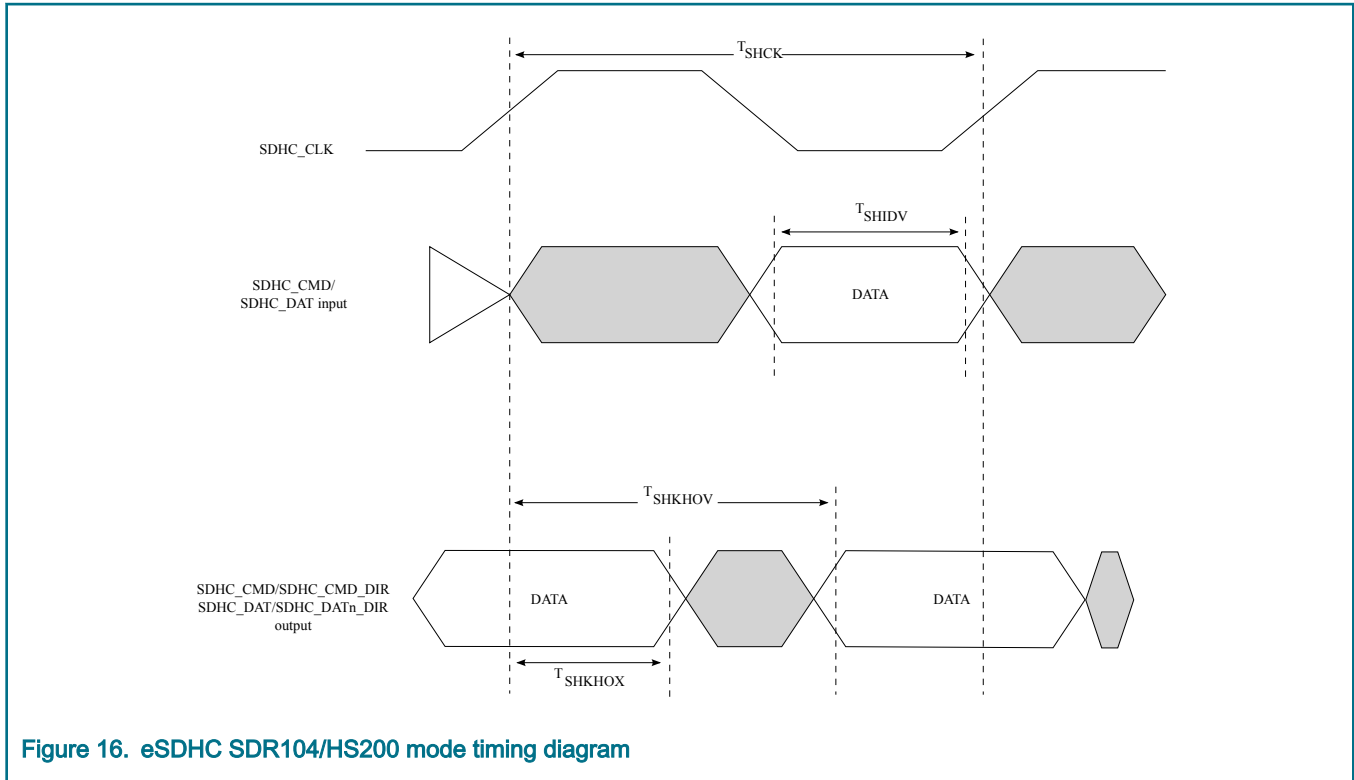
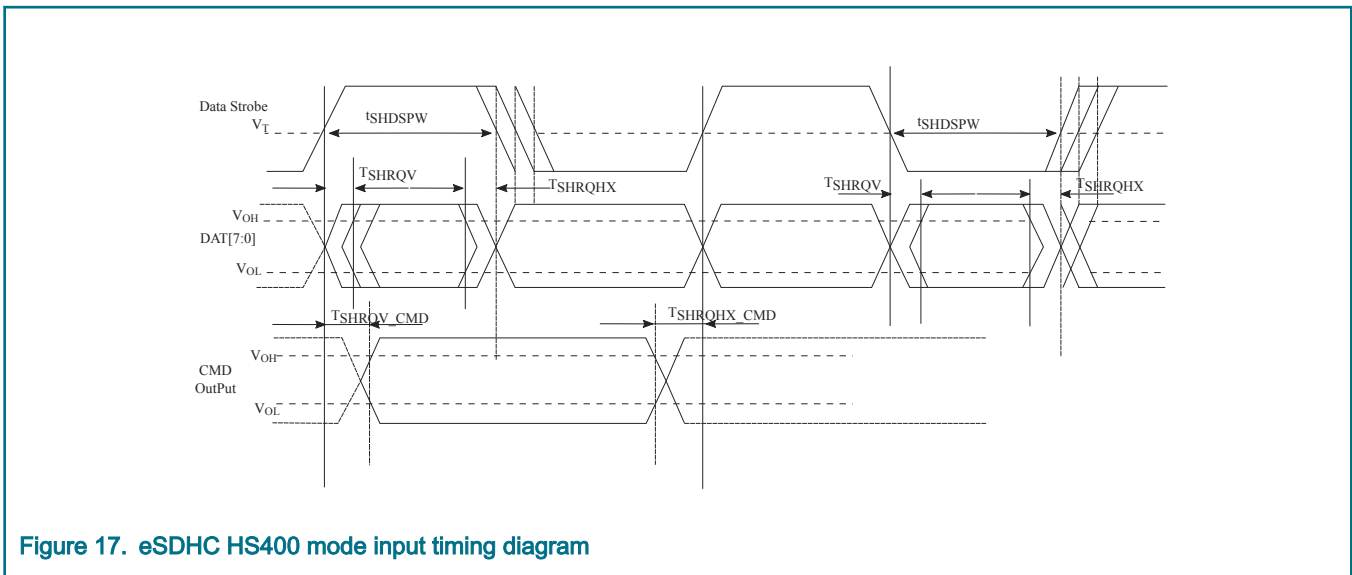

Figure 16. eSDHC SDR104/HS200 mode timing diagram
Figure 17. eSDHC HS400 mode input timing diagram
2. The symbols used for timing specifications herein follow the pattern of t_{(first two letters of functional block)(signal)(state) (reference)(state)} for inputs and t_{(first two letters of functional block)(reference)(state)(signal)(state)} for outputs. For example, t_{SHKHOX} symbolizes eSDHC highspeed mode device timing (SH) clock reference (K) going to the high (H) state, with respect to the output (O) reaching the invalid state (X) or output hold time. Note that in general, the clock reference symbol is based on five letters representing the clock of a particular functional. For rise and fall times, the latter convention is used with the appropriate letter: R (rise) or F (fall).
3. See Figure 16.
| <p>1. $C_L = C_{BUS} + C_{HOST} + C_{CARD} \leq 15pF$.</p> <p>2. The symbols used for timing specifications herein follow the pattern of $t_{(first\ two\ letters\ of\ functional\ block)(signal)(state)\ (reference)(state)}$ for inputs and $t_{(first\ two\ letters\ of\ functional\ block)(reference)(state)(signal)(state)}$ for outputs. For example, t_{SHKH0X} symbolizes eSDHC highspeed mode device timing (SH) clock reference (K) going to the high (H) state, with respect to the output (O) reaching the invalid state (X) or output hold time. Note that in general, the clock reference symbol is based on five letters representing the clock of a particular functional. For rise and fall times, the latter convention is used with the appropriate letter: R (rise) or F (fall).</p> <p>3. See Figure 17.</p> <p>4. See Figure 18.</p> <p>5. For HS400 without enhanced strobe (DQS) command, see Figure 16.</p> | | | | | |